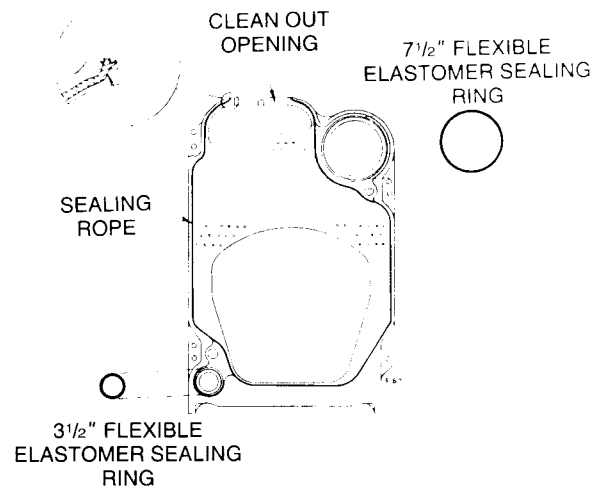

FIGURE 2
3. Position the 1/2" by 98" long sealing rope on the section by starting at the cleanout opening (see FIGURE 2). Be sure the sealing rope is well seated at all points in the sealing
4. Wipe the port openings with a clean rag to remove any grit from the machined surfaces. Do not use any cleaner that contains a petroleum base distillate (oil) to clean ports. Place the 7 1/2" and 3 1/2" elastomer sealing rings in the appropriate port openings (see FIGURE 2).